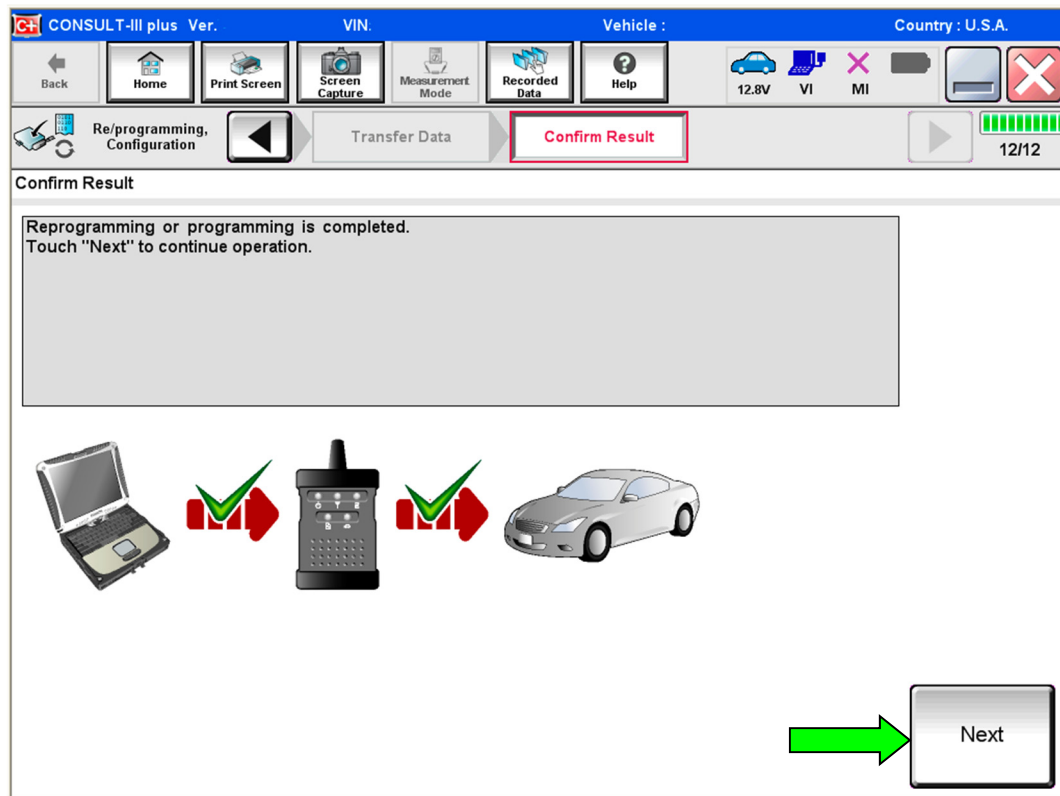

Figure 5
10. When the screen in Figure 5 displays, reprogramming is complete.
HINT: If the screen in Figure 5 does not display (which indicates reprogramming did not complete), refer to the information on the next page.